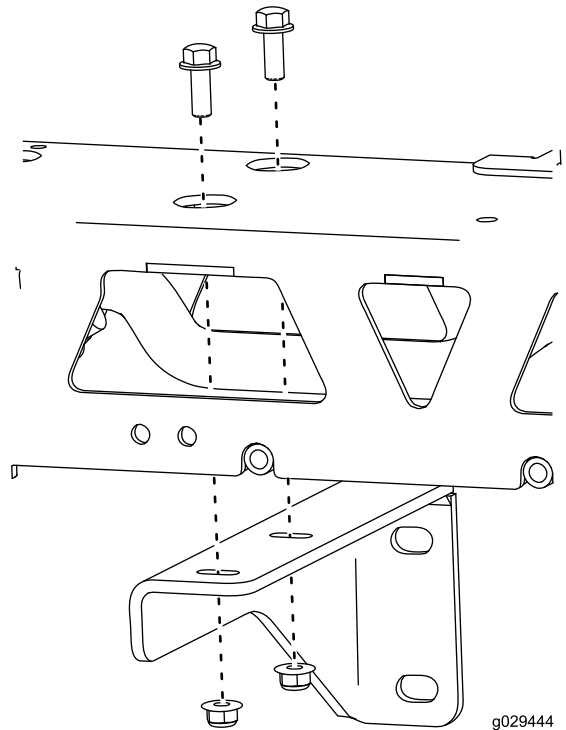

Figure 9
7. With the boom assembly off the machine, remove the 2 mounting brackets (Figure 9).